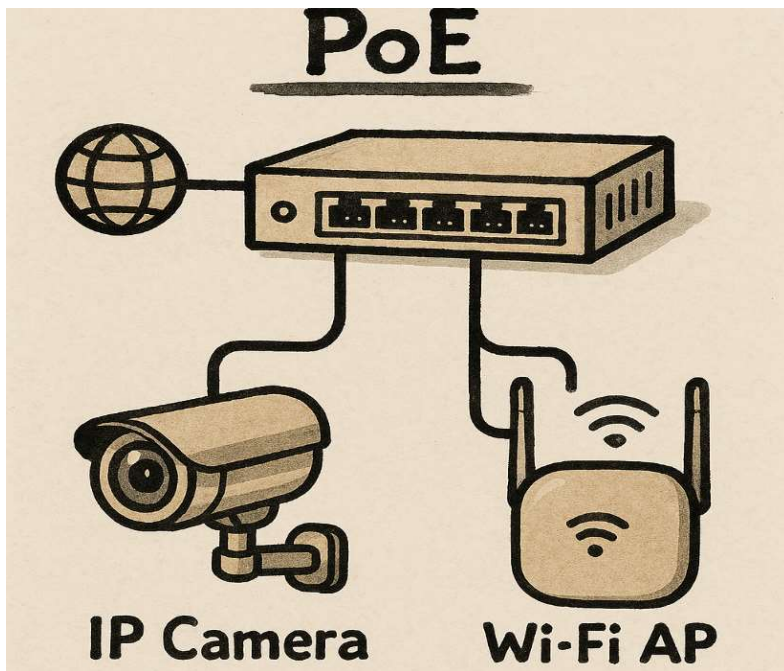

Figure 1. PoE System Architecture
The role of a network switch is like Power Sourcing Equipment (PSE), which provides 15W/30W/60W~90W and power management functions according to IEEE 802.3af/at/bt standards. The IP camera or Wi-Fi AP acts like a Powered Device (PD), communicating with the PSE about power requirements and receiving power. As shown in figure 1.